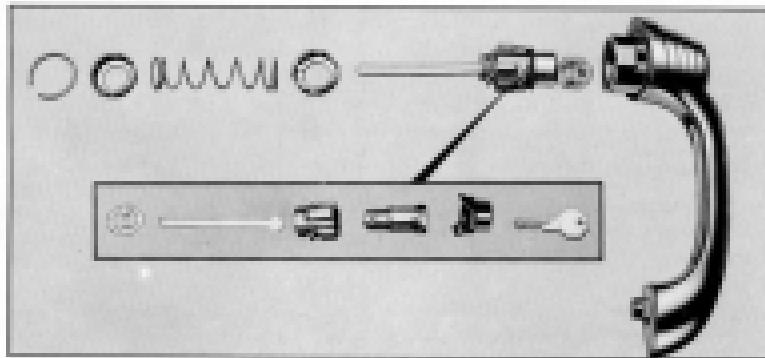

Fig. 46. Door Lock Assembly Details, 78 and 88 Series
4. Remove lock cylinder and push button shaft assembly. (See Fig. 46)